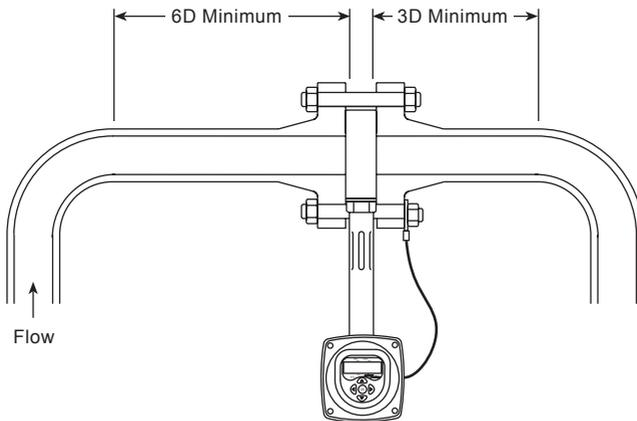

Fig. 11
**Note:** See Figures 11 to 13 for other considerations which need to be noted before determining the correct installation location.
The TFA flowmeter normally only requires a minimum of 6 pipe diameters upstream and 3 downstream of clear straight pipe. These dimensions assume a measurement from a single 90° bend (see Figure 11).